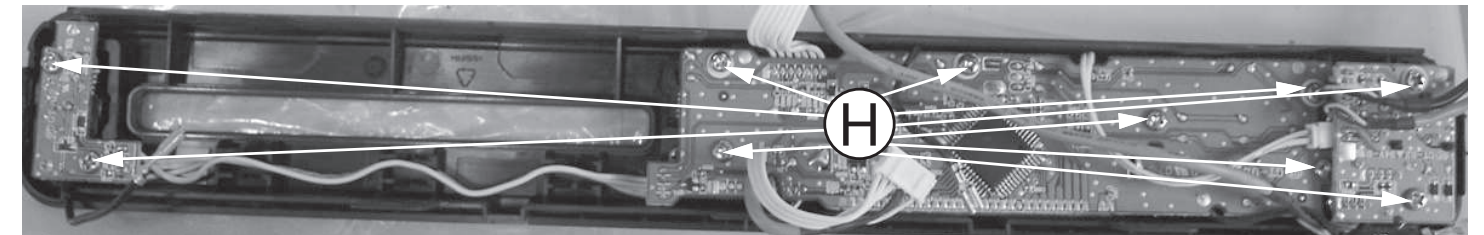

Figure 12
- 1) Loosen 10 screws "H" on the top of VFD+JACK+STANDBY board as shown in figure 12.